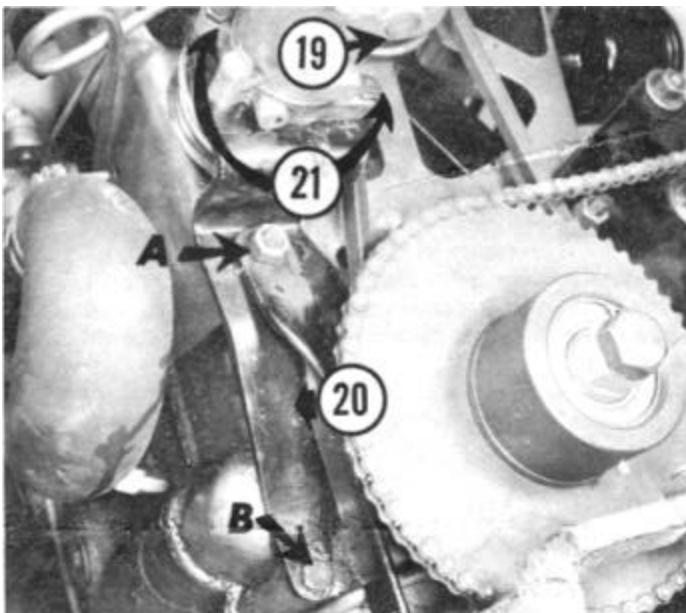

Figure 1
3. Remove Capscrew (B in Figure 1) from Crankcase, and Nut and Lockwasher (A in Figure 1) from Fan Housing.
4. Install Governor Bracket and Governor, replace Crankcase Capscrew (B in Figure 1). When correctly installed, Governor Lever lies horizontally at top of Governor.
6. Move Bracket to make Governor Pulley bear firmly on Fan Belt. Avoid excessive Belt pressure. Secure Bracket with Nut, Lockwasher (A in Figure 1).